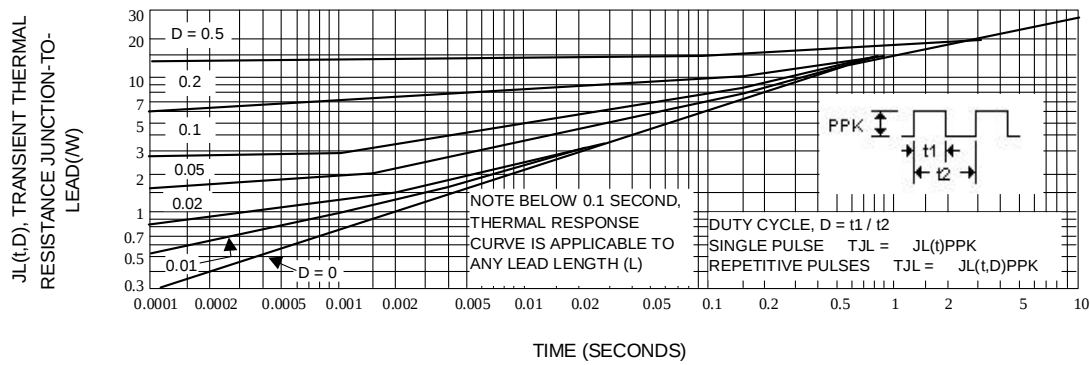
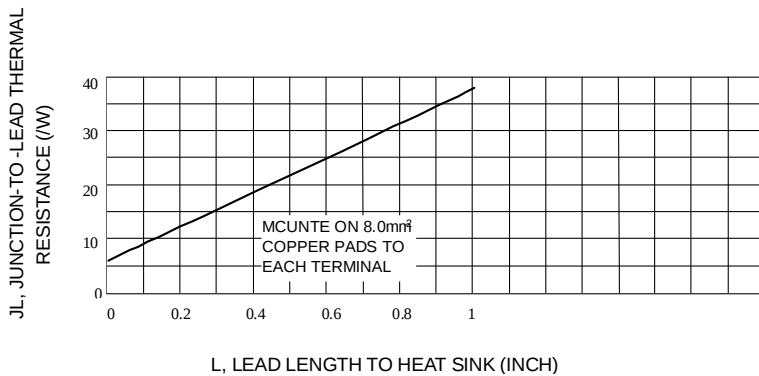
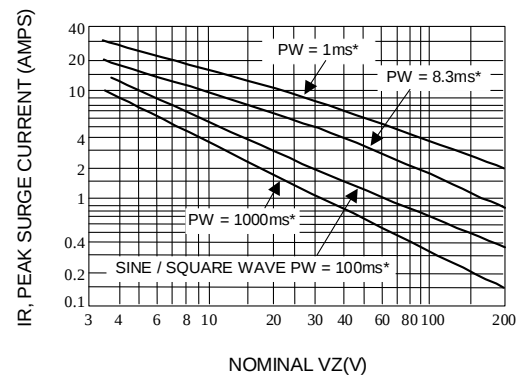
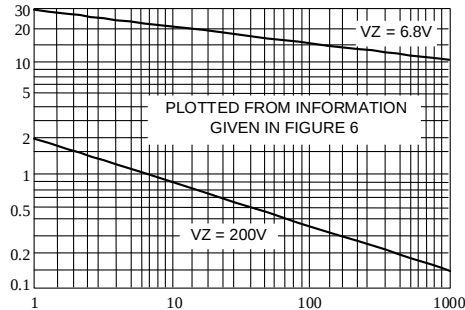

Fig. 3-TYPICAL THERMAL RESPONSE
Fig. 4-TYPICAL THERMAL RESISTANCE
Fig. 5-MAXIMUM NON-REPETITIVE SURGE CURRENT VERSUS NOMINAL ZENER VOLTAGE (SEE NOTE 3)
Fig. 6-PEAK SURGE CURRENT VERSUS PULSE WIDTH(SEE NOTE 3)
3. **SURGE CURRENT (I_r)** - Surge current is specified as the maximum allowable peak, non-recurrent square-wave current with a pulse width, PW, of 8.3 ms. The data given in Figure 5 may be used to find the maximum surge current for a square wave of any pulse width between 1 ms and 1000ms by plotting the applicable points on logarithmic paper. Examples of this, using the 6.8v and 200V zeners, are shown in Figure 6. Mounting contact located as specified in Note 3. ($T_A=25^\circ\text{C}$).
T_{JL} is the increase in junction temperature above the lead temperature and may be found from Figure 3 for a train of power pulses or from Figure 4 for dc power.
Data of Figure 3 should not be used to compute surge capability. Surge limitations are given in Figure 5. They are lower than would be expected by considering only junction temperature, as current crowding effects cause temperatures to be extremely high in small spots resulting in device degradation should the limits of Figure 5 be exceeded.
*** Data of Figure 3 should not be used to compute surge capability. Surge limitations are given in Figure 5. They are lower than would be expected by considering only junction temperature, as current crowding effects cause temperatures to be extremely high in small spots resulting in device degradation should the limits of Figure. 5 be exceeded